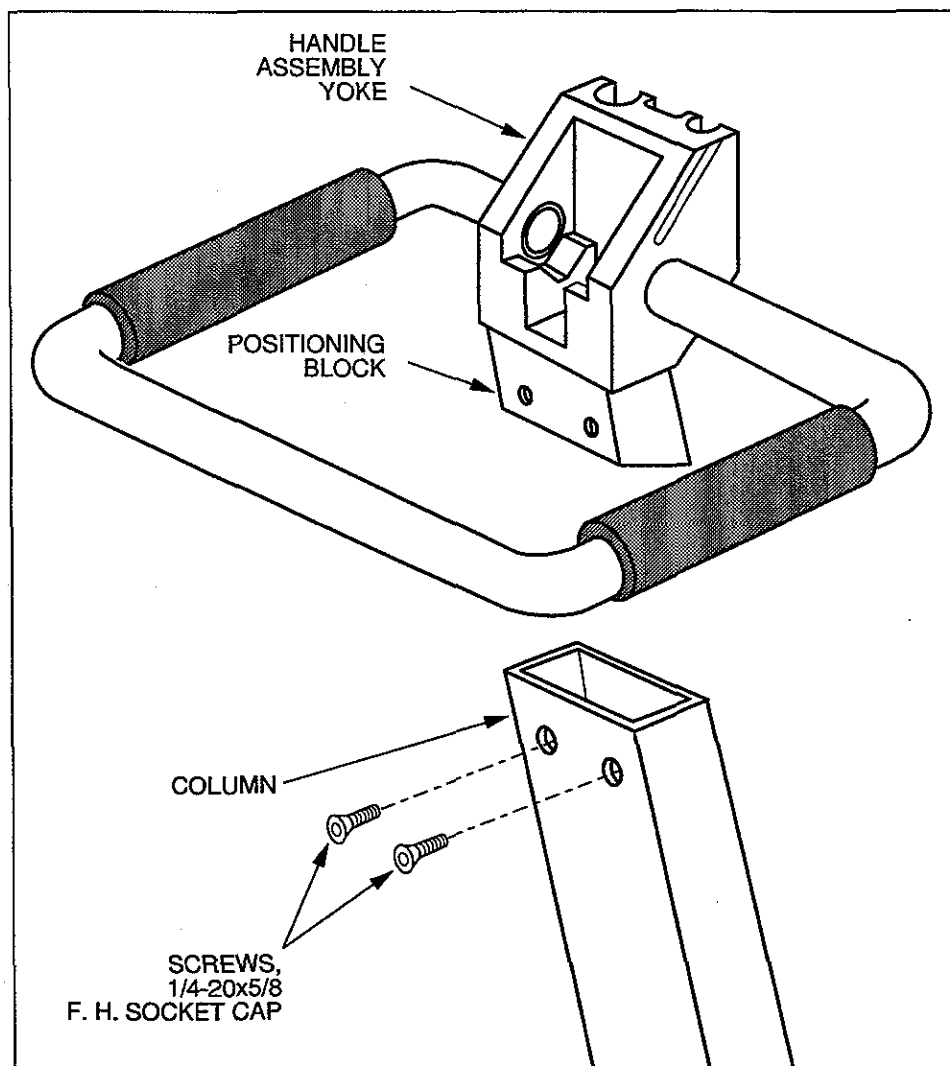

Figure 2-2
1. Position the handle assembly in accordance with Figure 2-2. Lower the positioning block, projecting downward from the handle assembly yoke, into the top of the column in the base and column assembly. Align two clearance holes, penetrating the front of the column, with two tapped holes in the positioning block.